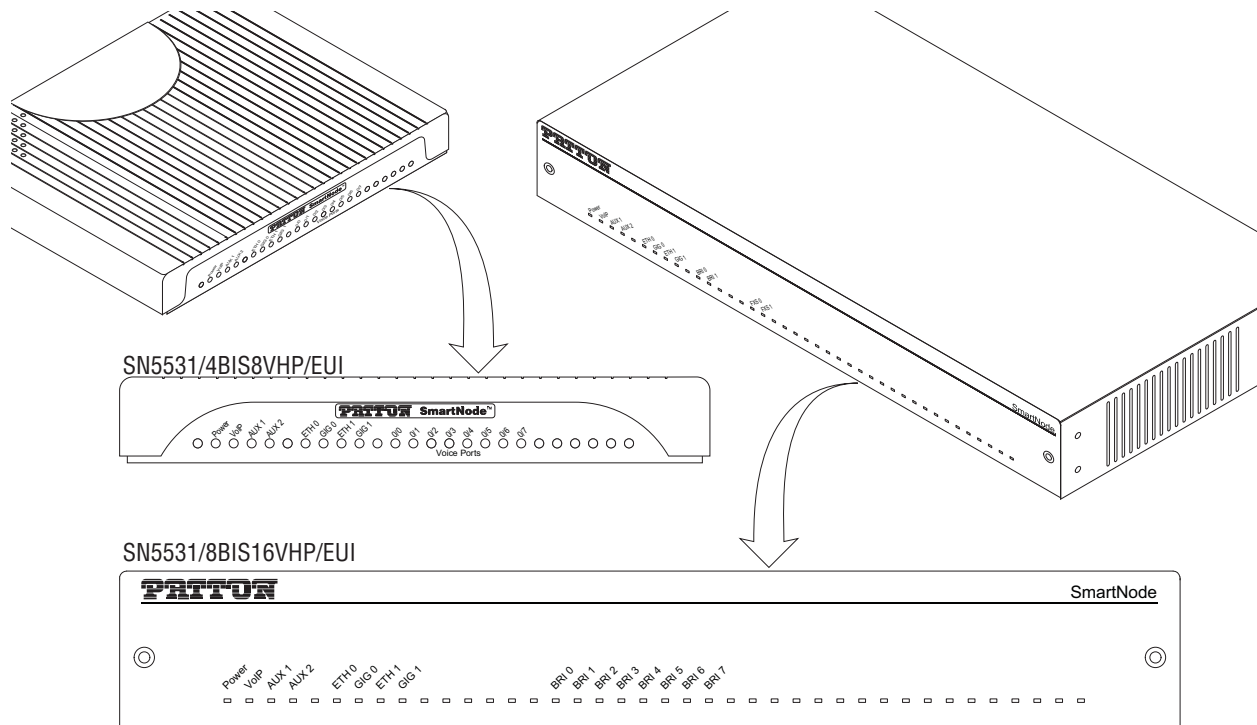

Figure 6. Power LEDs
4. Verify that the green *Power* LED is lit (see figure 6). Blinks fast during bootloader phase and blinks slow during boot process of Trinity Software. Becomes solid when the system is up and running.